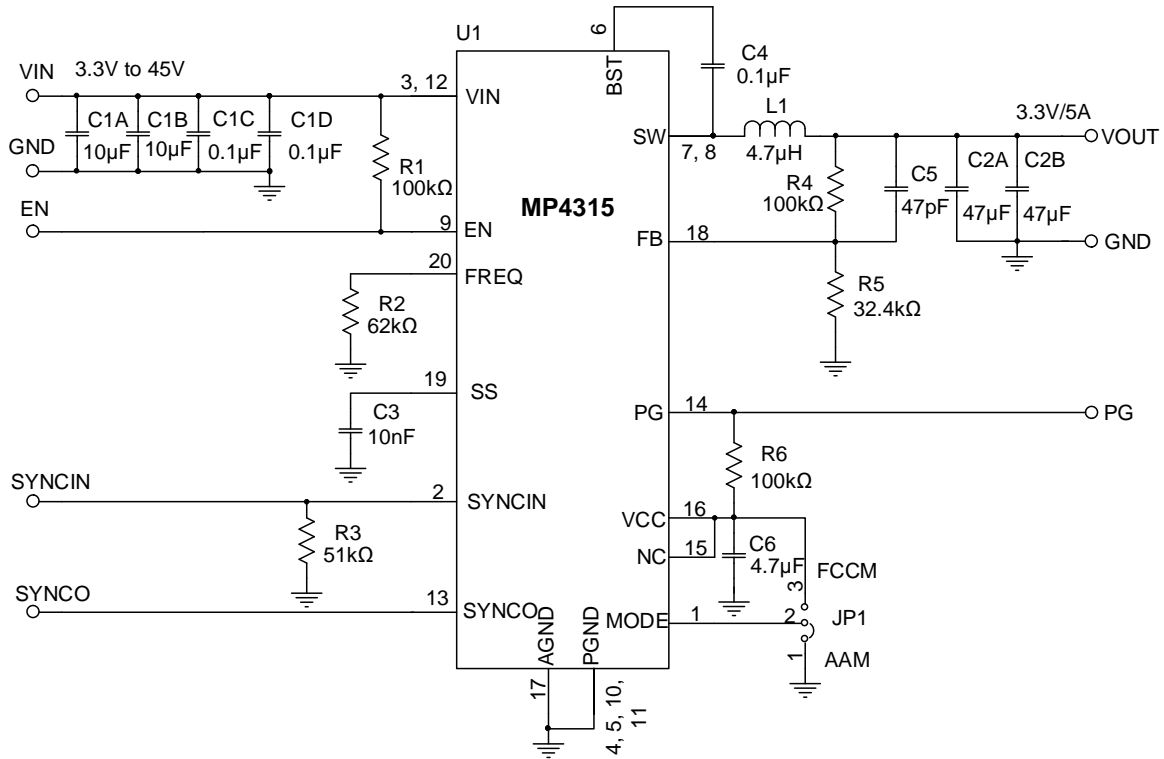

Figure 10: Typical Application Circuit ($V_{OUT} = 3.3V$, $f_{sw} = 470kHz$)
10) The recommended PCB layout is based on Figure 10 on page 31.